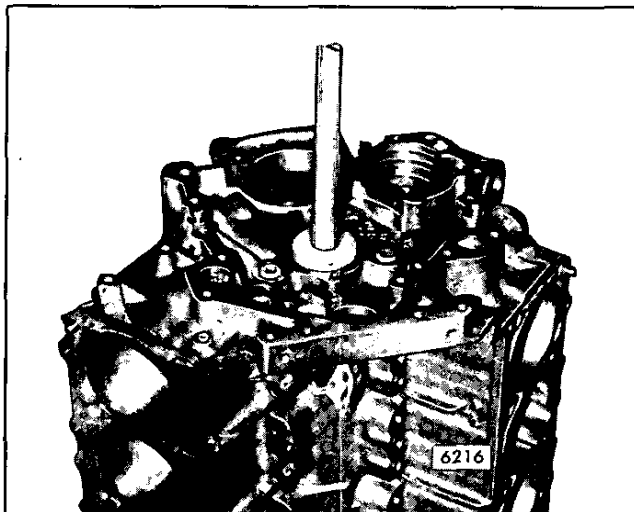

Fig 2 - Camshaft Bearing Removal
1. Remove the damaged or worn camshaft bearings using J 29141-3 Driver and J 29141-1 Remover/Installer and a lead hammer (Fig. 2).